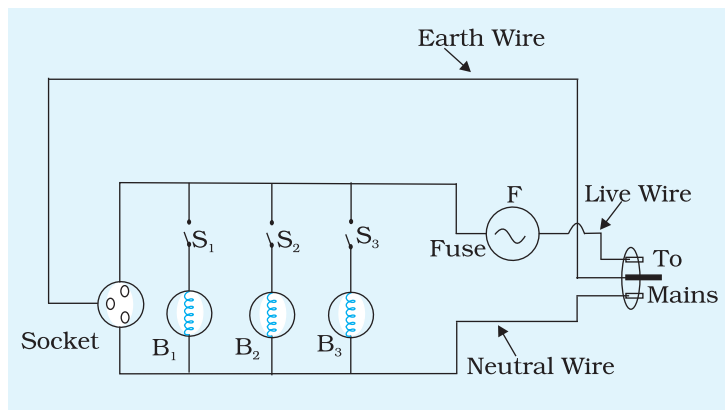

Fig. A 5.1
In order to protect the appliances from damage, when accidentally a high current is drawn (e.g. when the terminals of the appliance get accidentally connected), a fuse of rating little higher (10 to 20 per cent higher than the current normally drawn) is connected in series with the set of appliances (Fig. A 5.1).
1. Take the bulbs B_1 , B_2 , B_3 and connect them in series with switches S_1 , S_2 and S_3 respectively. Connect B_1 , B_2 , B_3 along with S_1 , S_2 , S_3 in parallel with each other as shown in Fig. A 5.1.
2. Connect fuse F in series with the set up as shown in Fig. A 5.1. Connect a plug and the socket at the end of two leads. Connect a wire from the earth pin of the plug.